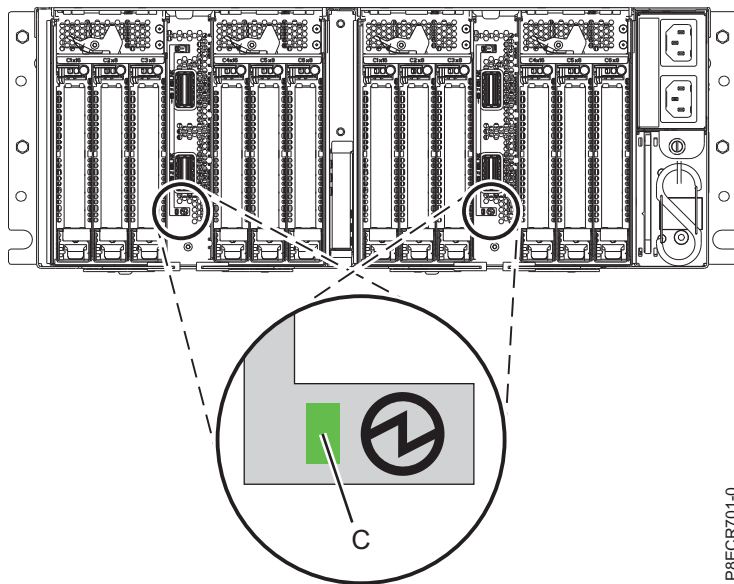

Figure 2. Power LED of a PCIe3 6-slot fanout module
- The I/O module power LED (**C**) is on solid. The power LED is located below the expansion drawer cable ports on the I/O module that was identified in the previous step. For the location of the Power LED on a PCIe3 6-slot fanout module, see figure 2.